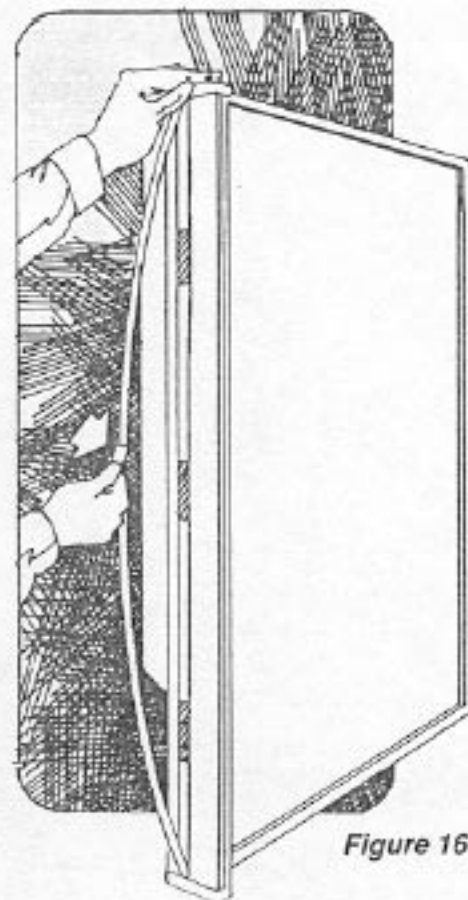

Figure 16
NOTE: The trim molding will bend out at the center allowing removal as shown in Figure 16.
A) To install front panels on your Sub-Zero, the door handles must be removed. The handle screws are hidden by a magnet backed trim molding. Remove the molding using a piece of tape to pull it away from the handle and expose the handle screws. **NOTE: the molding will bend at center allowing removal as in Figure 16.**